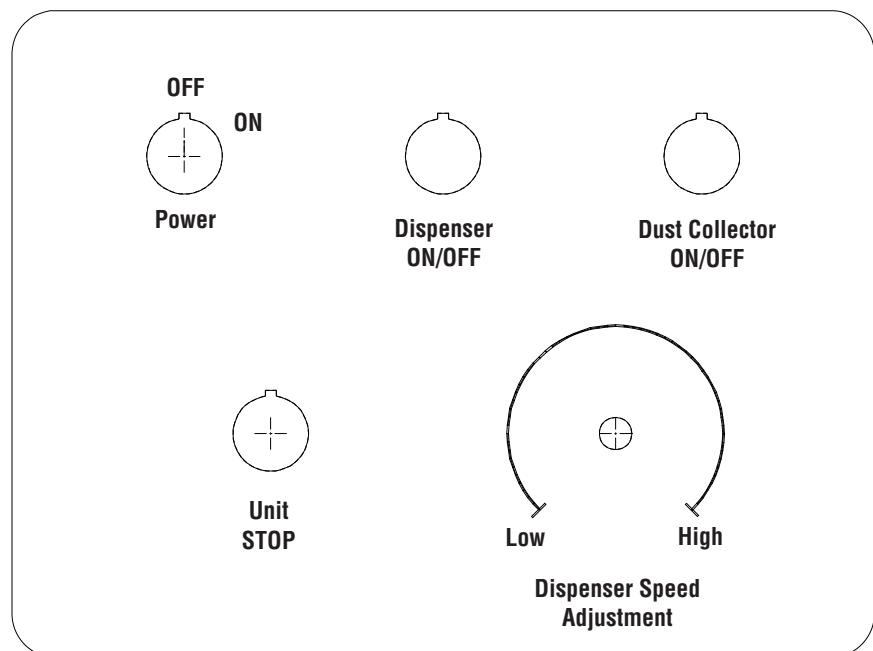

Figure 3-2. Basil 3600 Bedding Dispenser Control Panel
3.2.9 Control Panel See Figure 3-2.
Refer to Figure 3-2 for control location.